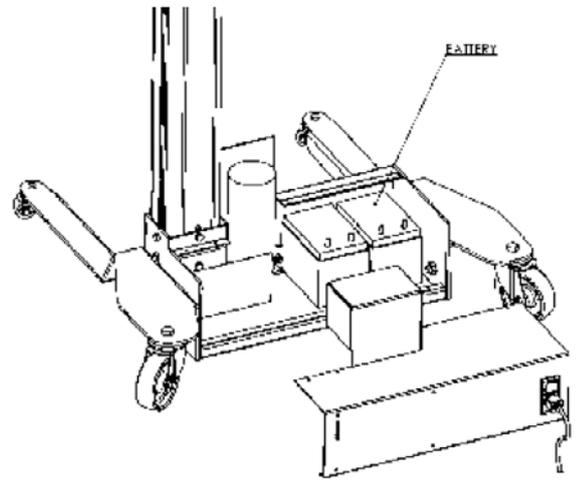

Figure 2 – Engine compartment opening
- 3) Connect the batteries as shown in Figures 2 and 3.
- 5) Release the emergency buttonles figures 2 et 3.